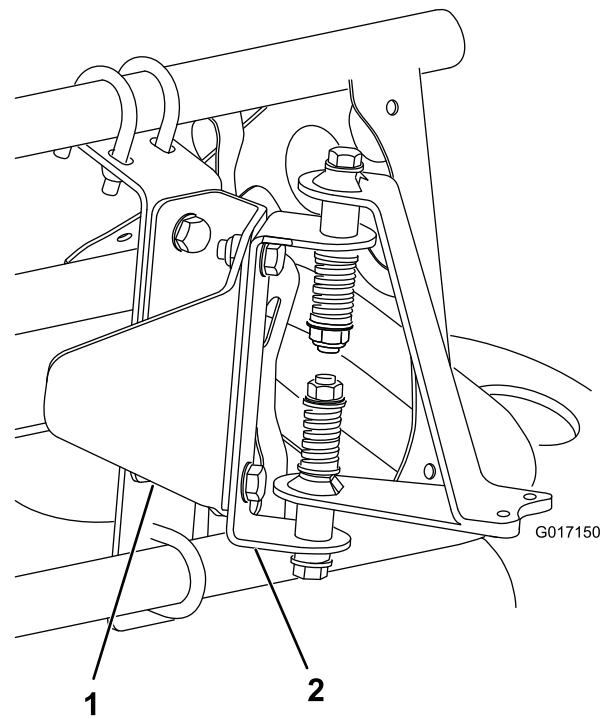
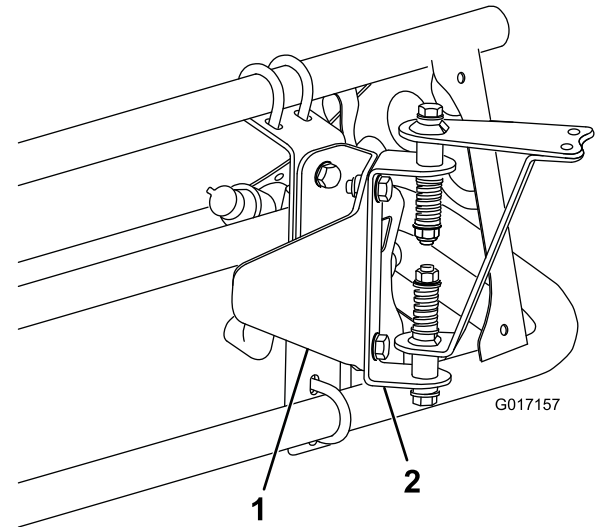

Figure 8
Figure 9
3. Install the sensor mounting hardware onto the sensor guard bracket with 2 bolts (5/16 x 3/4 inch) and 2 locknuts (5/16 inch) as shown in Figure 8 (for a covered boom) or Figure 9 (for an uncovered boom).